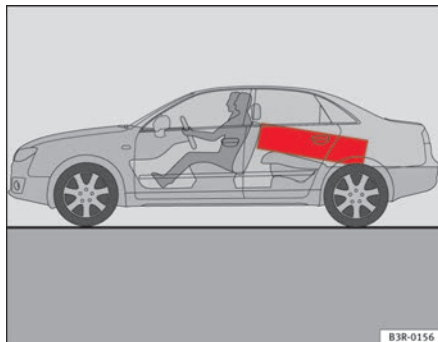

Fig. 114 Position heavy items as far forward as possible.
- Position heavy items as far forward as possible ⇒ **fig. 114**.